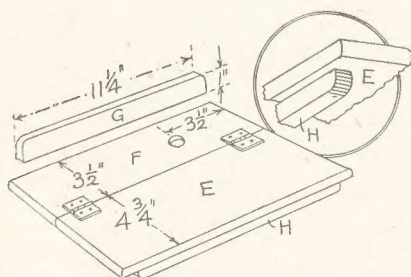
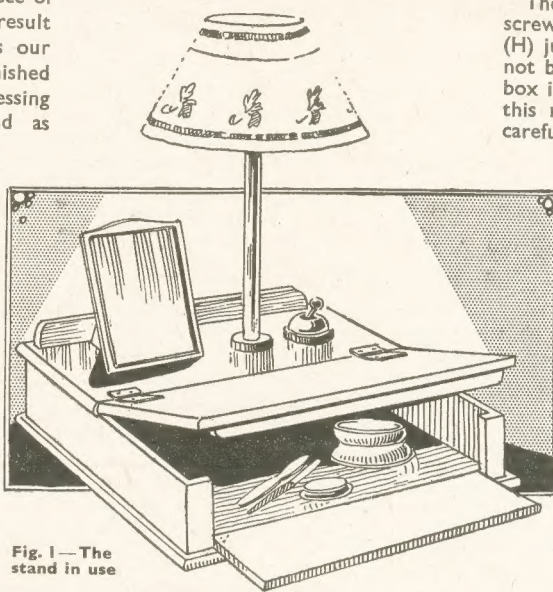

Fig. 3—Details of the hinged top
Fig. 1—The stand in use
THIS is a really interesting piece of work to undertake, and the result should be most pleasing, as our illustration Fig. 1 shows. The finished article could be used for the dressing table or the bedside table, and as regards colour or finish, this depends largely on the kind of wood used in its construction. As will be seen from Fig. 1, there is an ob-long box with lid to open from the front and, if desired, with front to let down, making, in this latter case for convenience in handling the contents.
If the front of the box is to be made to open downwards, as Fig. 1, then a space of 1 in. at each end of the front part (B) should be marked off and cut down and the larger piece hinged to the floor with ½ in. brass hinges. The piece of wood for the lid will be marked off, as shown in Fig. 3, and cut through on the line, and the two parts then connected by a pair of ¾ in. hinges.